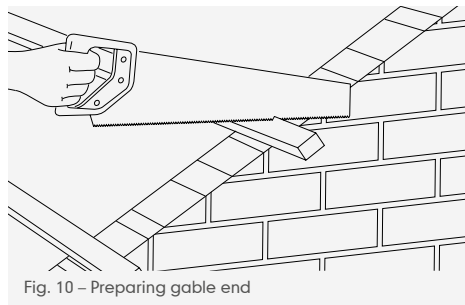

Fig. 10 – Preparing gable end
- 1 Ensure the gable end is reasonably level and free from projections. The roofing underlay and tiling battens should be laid across the cavity/gable ladder and the battens finished flush with the outer wall or outer edge of the bargeboard (Fig. 10). The verge extrusion is fitted prior to tiling.